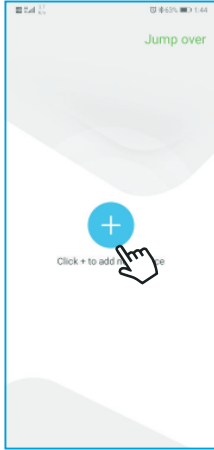

Fig. 5-3
**Step 2:** Mobile phone connected to WiFi, log in to the registered account and enter the setting interface - WiFi setting - Smart setting WiFi - Color screen host, Fig.5-3,5-4,5-5,5-6.